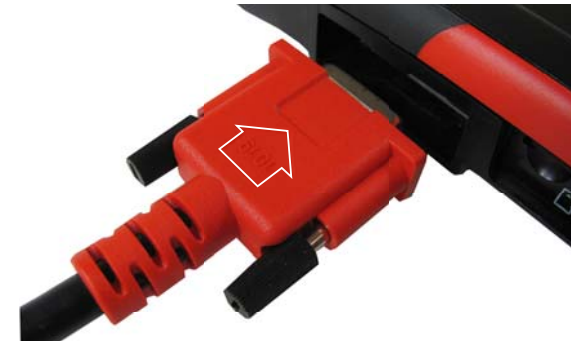

Figure 3-1 Arrow highlighted for illustration purposes only.
1. For OBD-II/EOBD compliant vehicles, connect the DA-4E data cable (26 pin end) to the diagnostic tool (Figure 3-1). Connect the cable with the arrow facing up (display side).